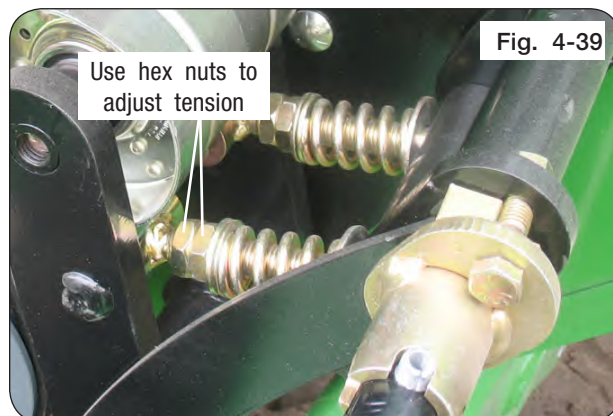

Fig. 4-39
5. Belt tension is adjusted with hex nuts below the spring. All belt tension **MUST** be released from linkage. Loosen outer hex nut and adjust inner nut to establish a  $3 \frac{1}{16}$ " pre-load dimension between the heavy washers. Tighten the outer hex nut against inner nut to lock position. (Fig. 4-39)